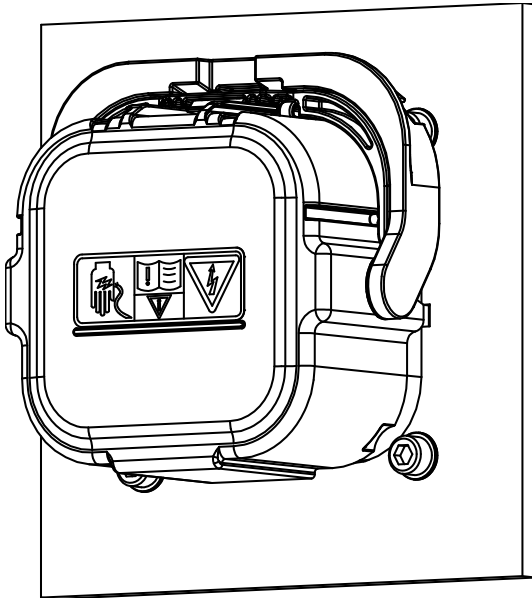

Figure 6
7. Completed assembly is shown in Figure 6.